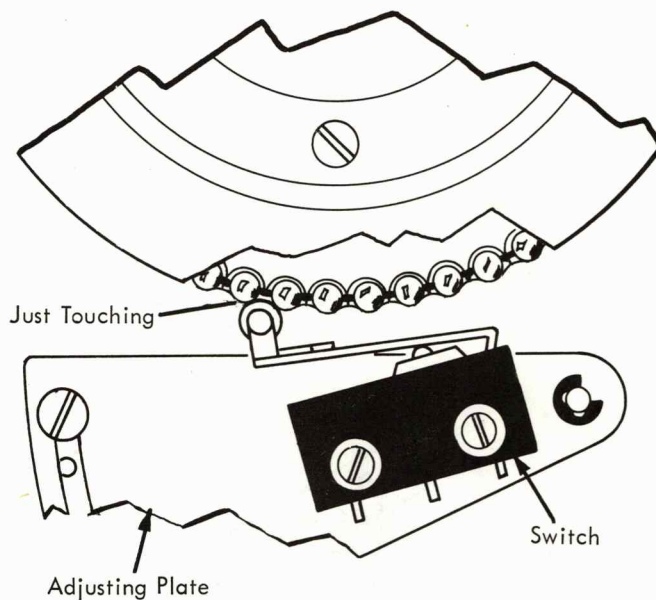
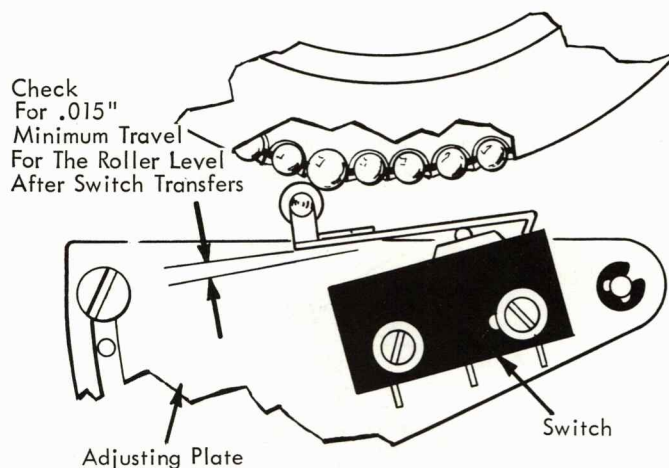

FIGURE 208. First Line And Body Skip Switches
FIGURE 209. First Line And Body Skip Switches
1. First Line and Body Skip Switches - With the bead chains in place, position both switches so that each roller is just touching the chain and sprocket at the lowest point between two small beads (Fig. 208). Connect an ohmmeter across the N/O contacts and slowly rotate the platen knob until a large chain bead operates the switch roller lever. The N/O contact must make before .047" rise of the roller and break before .047" fall as a single large bead is moved past each switch roller (Fig. 209). The maximum rise of the switch roller is approximately .062" when encountering a large bead.